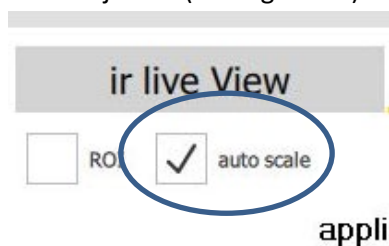

Figure 32 Automatic scale adjustment
- Manually: if you de-select the *auto-scale* option, the minimum and maximum values of the scale can be manually entered. The scale and the displayed results will be automatically adjusted (see Figure 32).